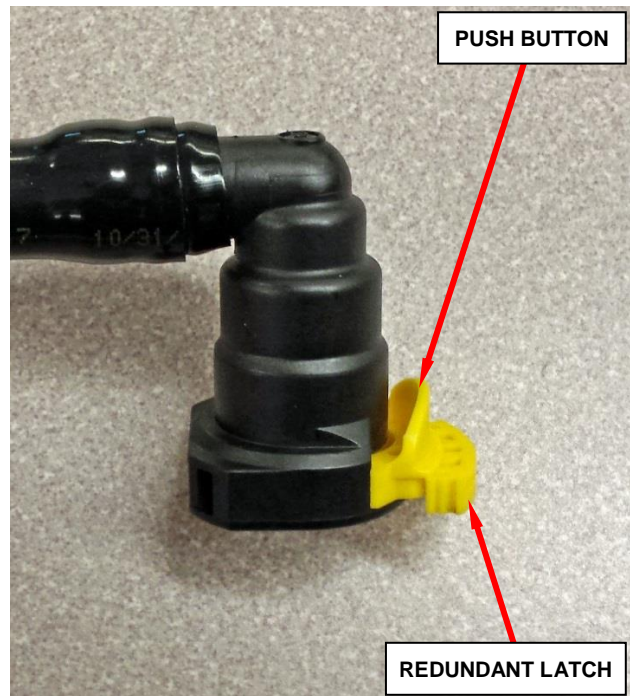

Figure 9 – Quick-Connect Fitting
13. Perform the following steps to release the fuel supply jumper quick-connect fitting from the fuel supply line (Figure 9).